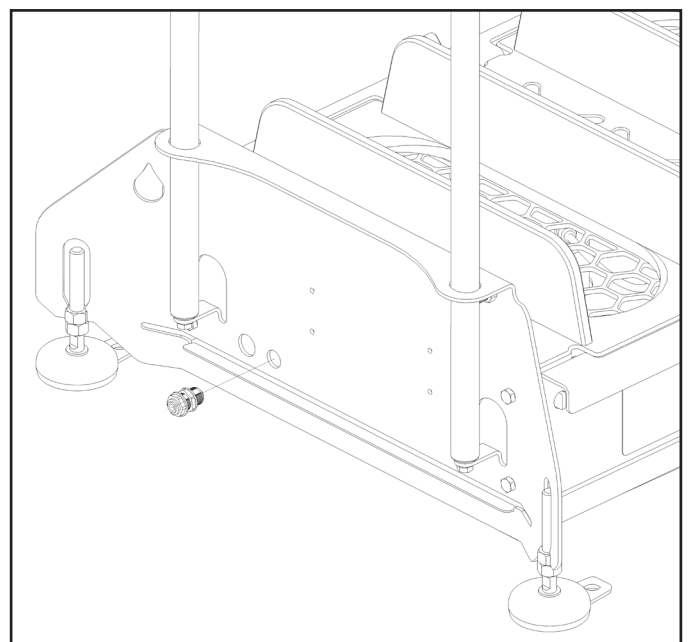

Fig. 5.2: 1/4" bulkhead for Compliance Counter airline
2. Connect the included 1/4" bulkhead fitting to the open port on the side of the sanitizing system [Fig. 5.2]